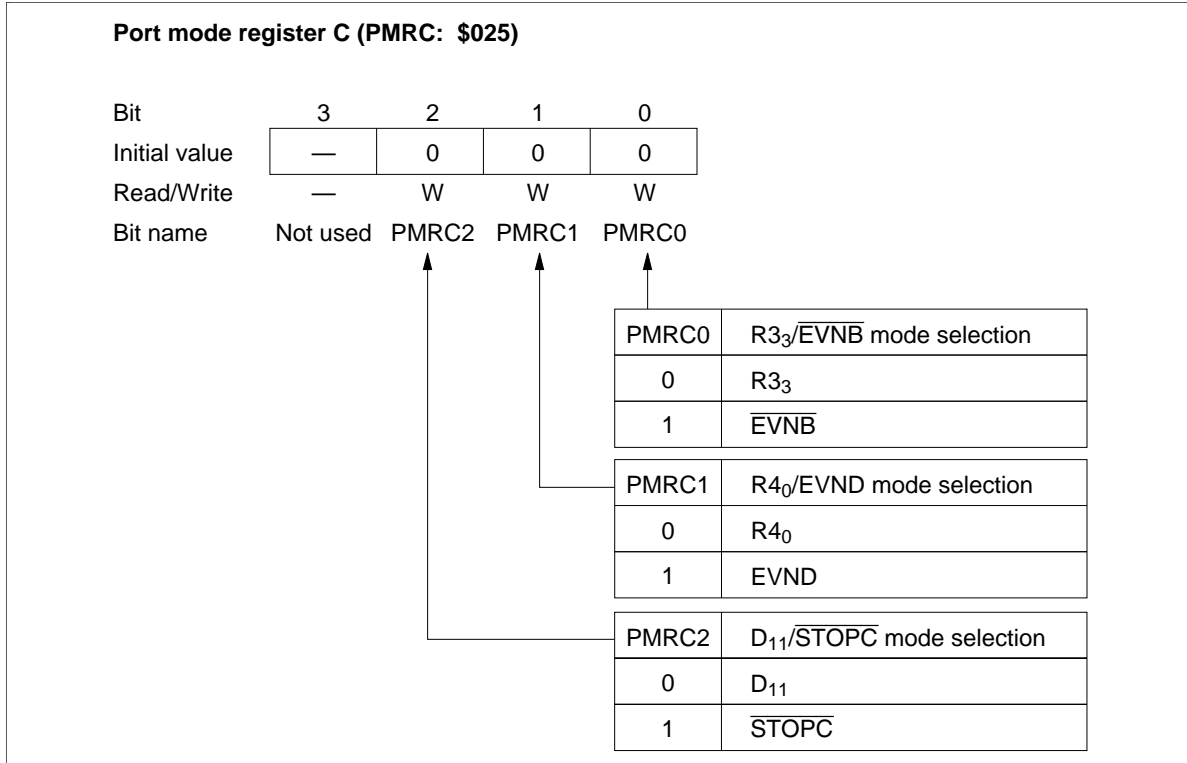

Figure 51 Port Mode Register C (PMRC)
- Port mode register C (PMRC: \$025): Write-only register that selects the  $R3_3/\overline{EVNB}$  pin function (figure 51). It is reset to \$0 by MCU reset.